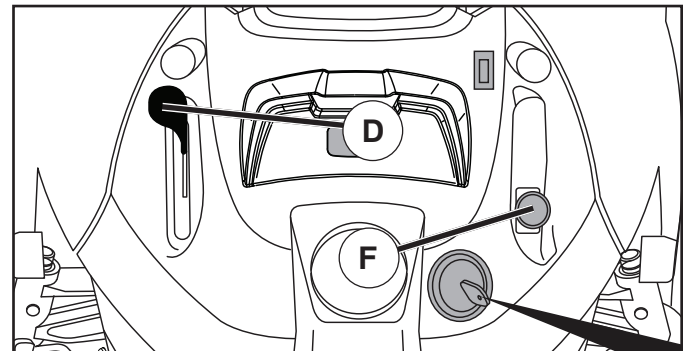

Fig. 6
- Move throttle control (D) to slow position.
- Turn ignition key (F) to "STOP" position and remove key. Always remove key when leaving tractor to prevent unauthorized use.
### TO USE THROTTLE CONTROL (D) (See Fig.6)